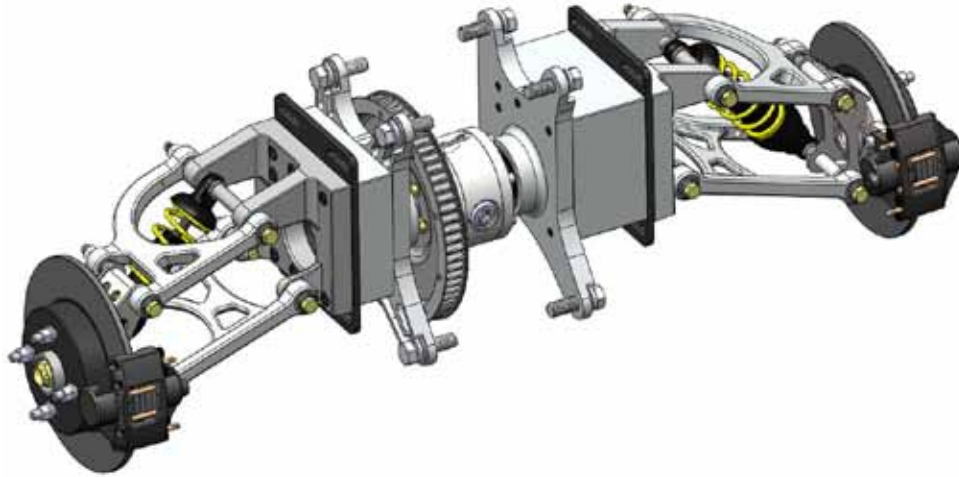

Figure 6 Rear View
- Remove the 2 rear connector tubes and the one front top connector tube and position drive belt onto the rear pulley. See Figure 6